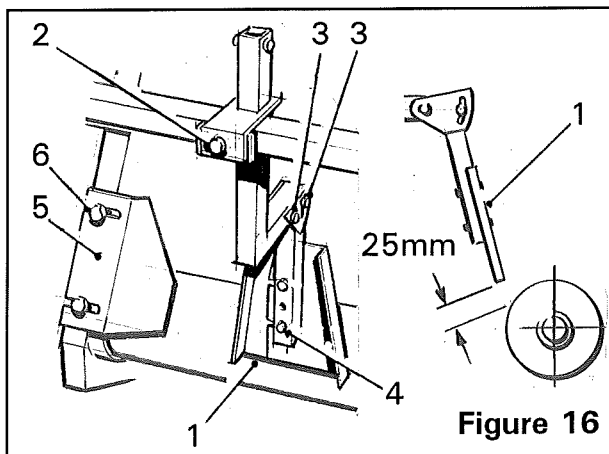

Figure 16
The deflectors (*item 1, figure 16*) should be positioned centrally between the lifting wheel units. To achieve this, loosen the securing bolt (*item 2, figure 16*) and slide the complete deflector to the required position. Before securing, set the height of the deflector to leave a vertical gap of approximately 25mm (1") between the bottom of the deflector and the lift web trip roller (*see figure 16*). To achieve the optimum setting, the deflectors may need to be tilted by loosening the bolts (*item 3, figure 16*) and lining up the bottom face of the deflector with the front face of the trip roller.
To ensure the gap between the lifting wheel units is completely filled, the deflectors are also adjustable for width. To adjust, loosen the retaining bolts (*item 4, figure 16*) and slide the deflector plates to the required position.
The outer beet deflectors (*item 5, figure 16*) are also adjustable to fill in the remaining gap between the outer lifting wheels and the web sides. To adjust, loosen the retaining bolts (*item 6, figure 16*).